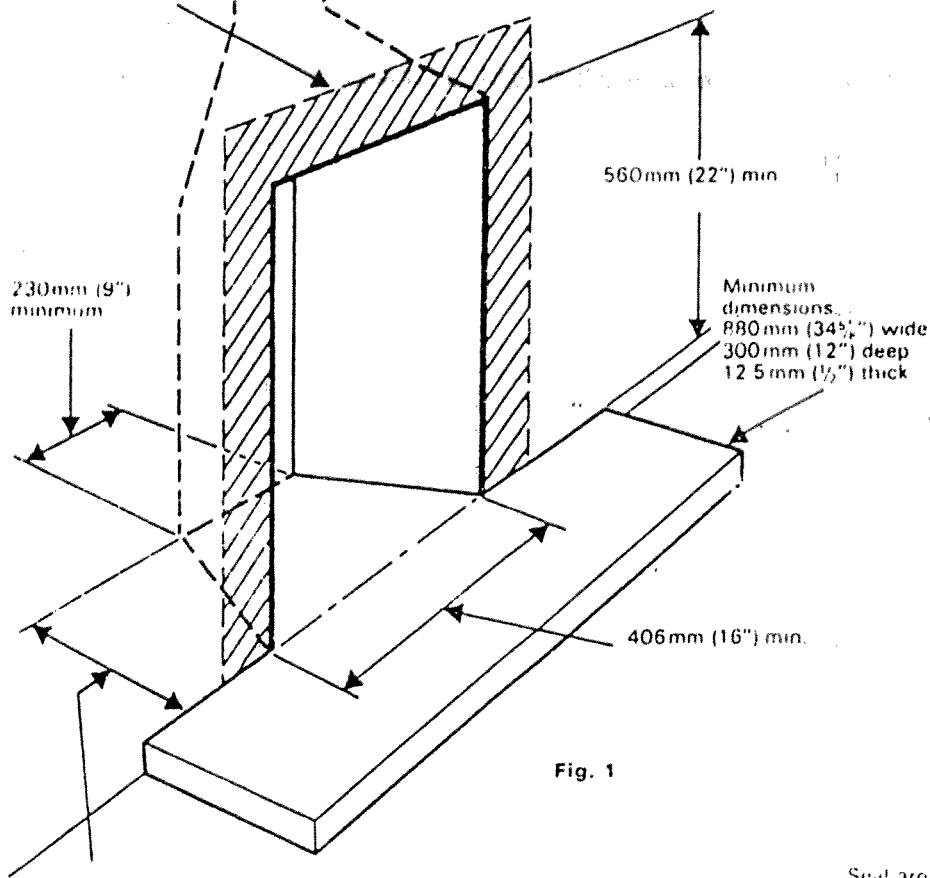

Fig. 1
- 1.3 The minimum fireplace size into which this appliance can be installed is 22" high x 16" wide x 10" deep (for a height of at least 15" from the base of the fire) (see Fig. 1). The minimum permanent free opening of the flue shall not be less than 20 sq/ins (129 sq/cm).
Most openings will not be the correct dimensions to fit the Valorflame hearth box flanges without installing some type of NON-COMBUSTIBLE surround. The purpose of the "surround" is to assure proper venting, and to eliminate unnecessary room air losses up the flue. All joints should be made as air-tight as possible, using heat resistant tape, caulking material or fire cement. Fig. 1 shows the inside dimensions of the surround required to match up with the Valorflame hearth box flanges. The outside dimensions of the surround will be determined by the actual size of the fireplace opening. The outer perimeter of the surround may be fitted to either the outside surface of the fireplace face (must overlap at least 3 inches) or to the inside edge of the fireplace opening. In general, the latter method makes it easier to achieve a seal.